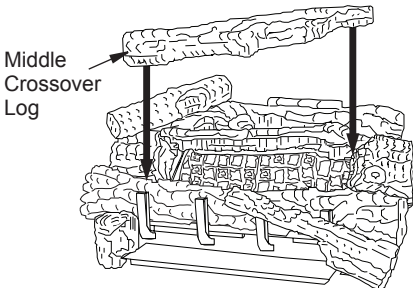

Figure 36 - Installing Middle Crossover Log
10. Rest the middle crossover log onto the right middle log and the left front log (see Figure 36). Make sure to match the projection on the bottom of the crossover log with the recess area in the right middle log and the left front log.